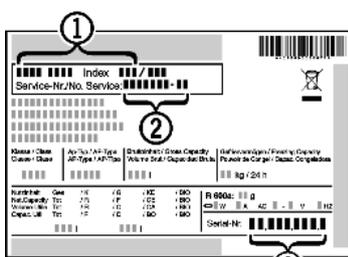

Fig. 39
- ▶ Read off the appliance name Fig. 39 (1), service no. Fig. 39 (2) and serial no. Fig. 39 (3) from the model plate. The model plate can be found on the inside of the appliance on the left.